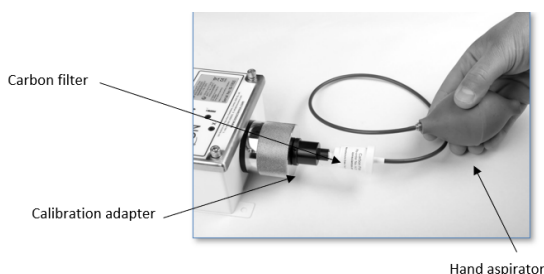

Figure 11
3. Insert the calibration adaptor into the sensor cap and attach the carbon filter to the calibration adaptor. The carbon filter should be connected to the hand aspirator (See Figure 11).